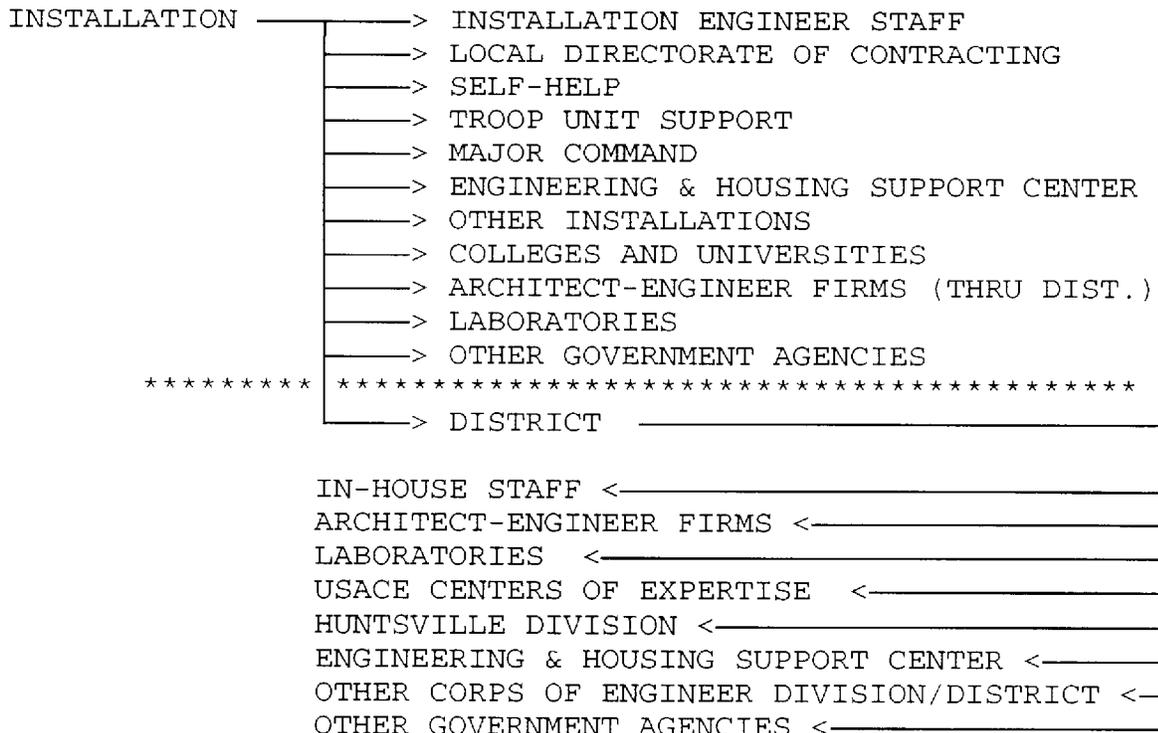

Figure 2-1. Typical Execution Options.
a. A number of options are available to both the installation engineer and the district for executing projects. Figure 2-1 shows some of the options that are typically open to the installation and the supporting district: